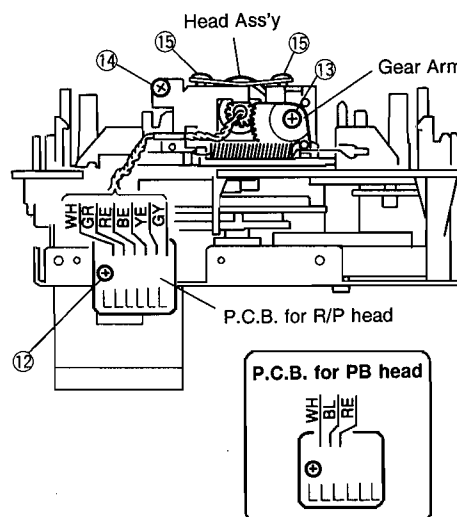

Fig. 7
- Remove 1 screw (12) and then remove the P.C.B. for head in Fig. 7.
- Remove 1 screw (13) and then remove the Gear Arm in Fig. 7.
- Remove 1 screw (14) and 2 screws (15) and then remove the Head Ass'y in Fig. 7.